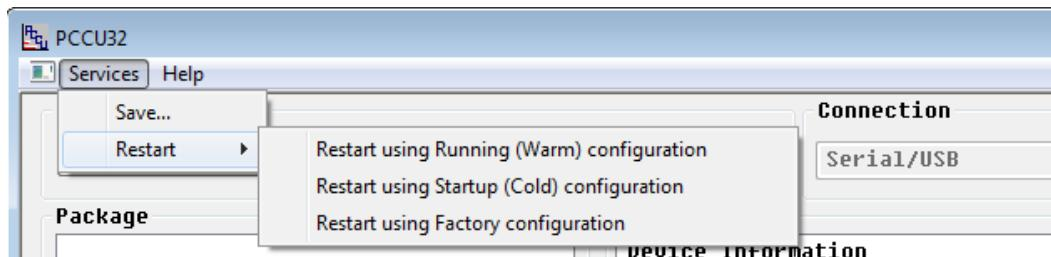

Figure 88: Restore factory configuration
5. Click **Services** in the menu bar, **Restart** option, and **Restart using Factory configuration** option (Figure 88).